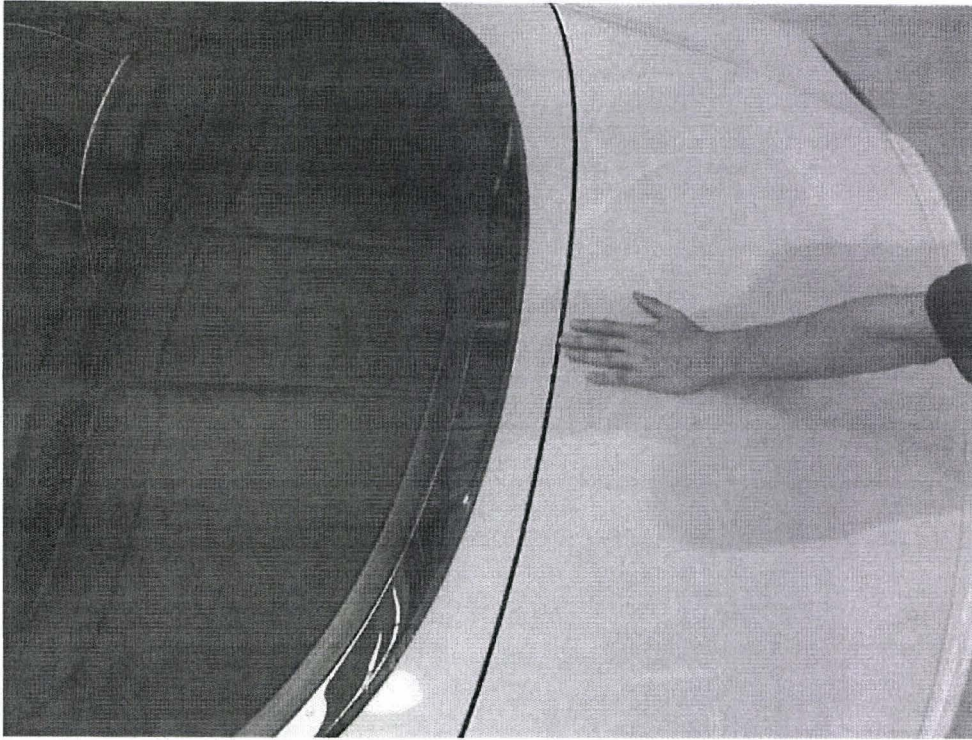

Figure 5
1. Check if the warning in the DIP extinguishes when light downward pressure is applied to the centre foremost part of the boot lid (Figure 5) take extreme care not to damage the boot lid